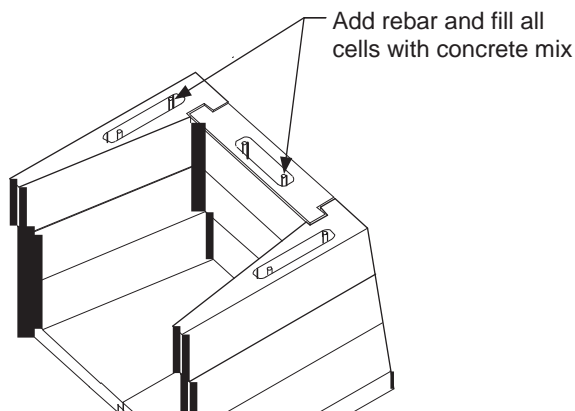
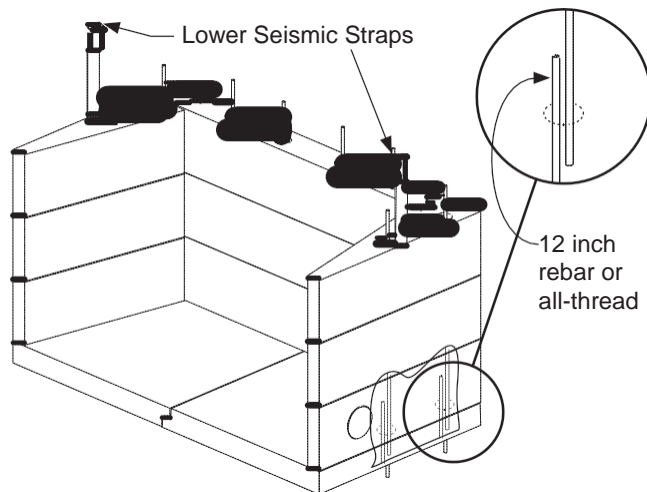

Figure 41- Inserting Rebar and adding Ready Mix Concrete
Figure 42 - Attaching Lower Seismic Straps
7) Insert 28" long rebar (8 total, included with fireplace) vertically through the cells, into the holes in the hearth, adjacent to the rebar and/or all-thread sticking up from the hearth (Figure 42). Mix approximately 2 cu. ft. of Ready-Mix Concrete (not included) and fill all cells in walls and rear of firebox completely (Figure 41).
8) Attach Lower Seismic Straps to rebar closest to the front as shown in Figure 42.